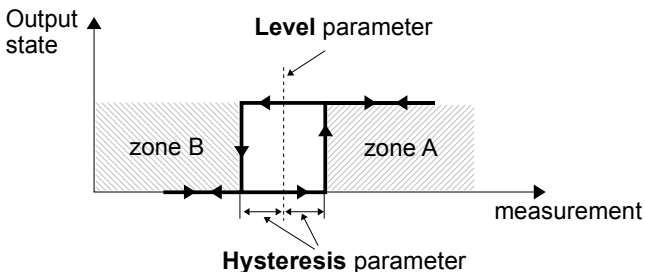
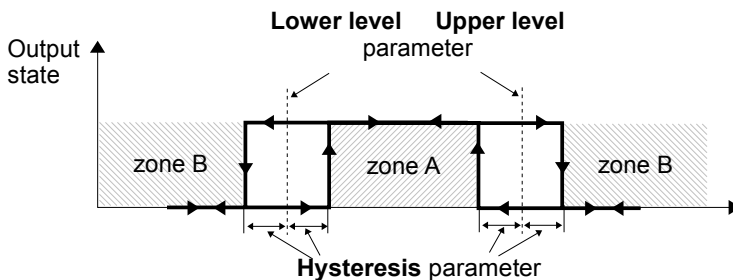

Fig. 7.86. One threshold control of the relay outputs
Fig. 7.87. Two threshold control of the relay outputs
- **Mode** - this parameter allows the user to select the method of operation of the output, the **Mode** parameter has the following options (see **Fig. 7.86** and **Fig. 7.87**):
Levels parameter block (see **Fig. 7.86**, **Fig. 7.87** and **Fig. 7.88**)
- **Hysteresis** – by defining this parameter the user can move the level for changes in the output state (see **Fig. 7.86** and **Fig. 7.87**),